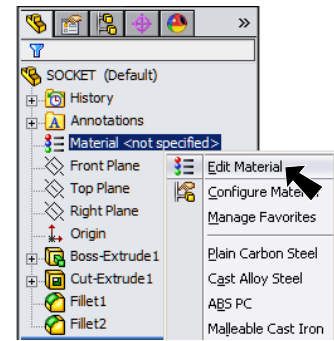

Fig. 17
Step 1. Right click Material  in the Feature Manager and click Edit Material, Fig. 17.